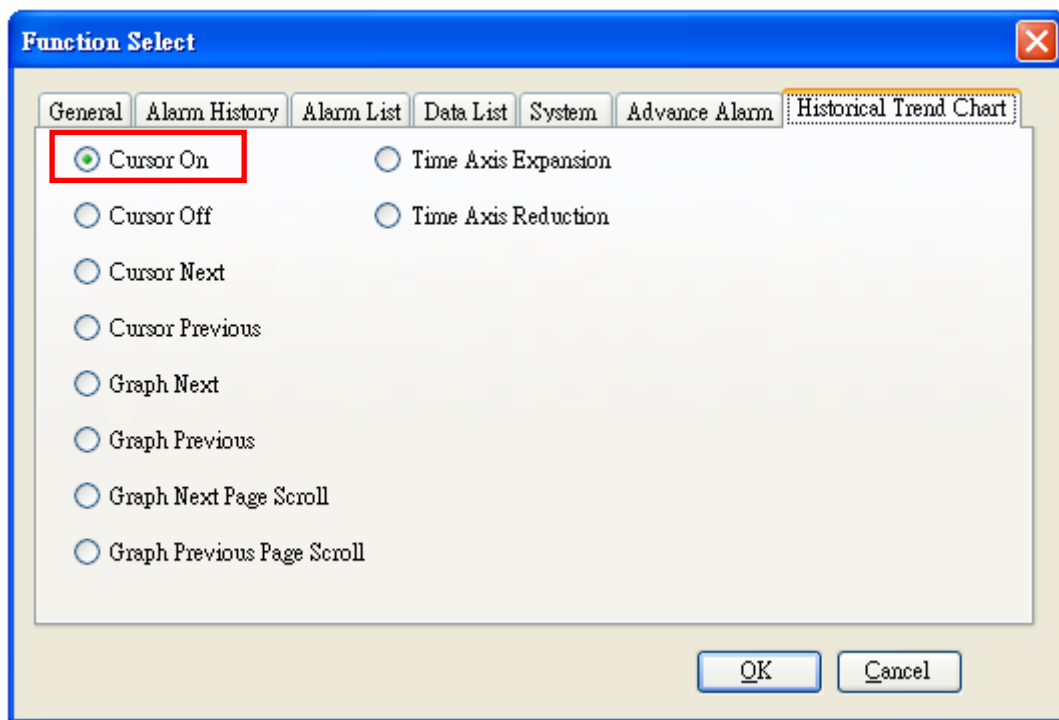

Fig. 3-6-7E-13 Options of Switch Functions
- In the setting of graph information and time devices, tick the Display Cursor option of the switch functions under the Historical Trend Chart tab. See Figure 3-6-7E-13 below.